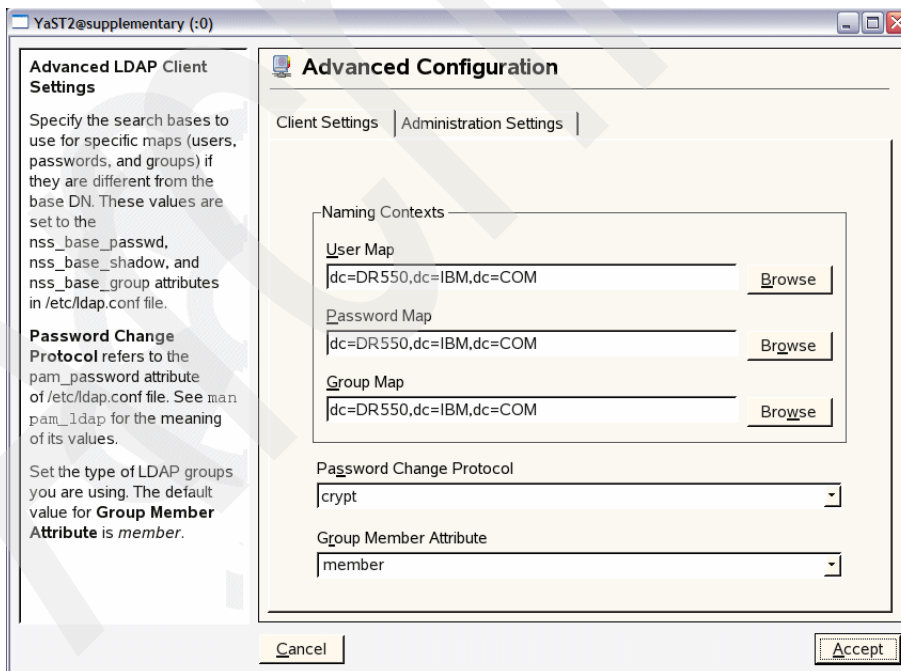

Figure 7-7 LDAP Client Configuration - Advanced Configuration
4. Click **Advanced Configuration**. This takes you to the window shown in Figure 7-7 on page 281.